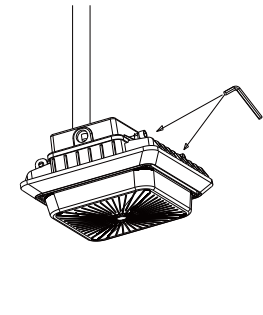

Figure 1-7
7. Lock the two cap screws, the product is installed. Figure 1-7